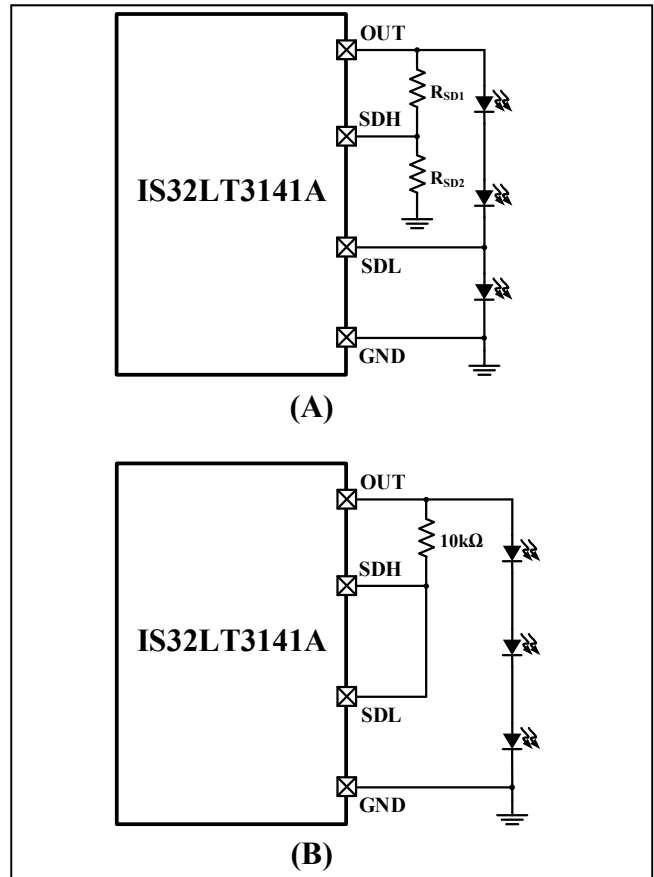

Figure 56 SDH and SDL Connection
In the application, the SDL pin is connected to the anode of the bottom LED and the SDH is connected to OUT pin via a proper resistor divider; Figure 56 (A). The device uses the input voltage of the SDL pin, the forward voltage of the bottom LED, as the reference voltage of the CMP1 to monitor the SDH pin voltage. In case of any upper LED is shorted, the SDH pin voltage V_{SDH} will drop down. If it drops below V_{SDL} but greater than V_{SSH_TH} and persists for longer than the deglitch time t_{FD_SS} , the single LED short protection will be triggered and the FAULTB pin will go low to report the fault condition. The resistor divider ratio can be calculated by:
When the single LED short protection is unused, SDH and SDL pins must be connected together to OUT pin via a resistor (recommended value is $10k\Omega$). As Figure 56 (B).